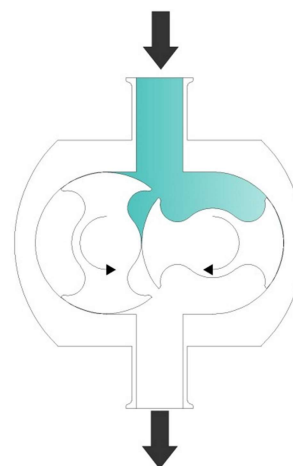

Figure 16 - Direction of rotation - viewed from pump head (Principle applies to all mounting orientations)
- Check the motor is wired for the correct direction of rotation (Figure 16 and Table 3 - Direction of flow)